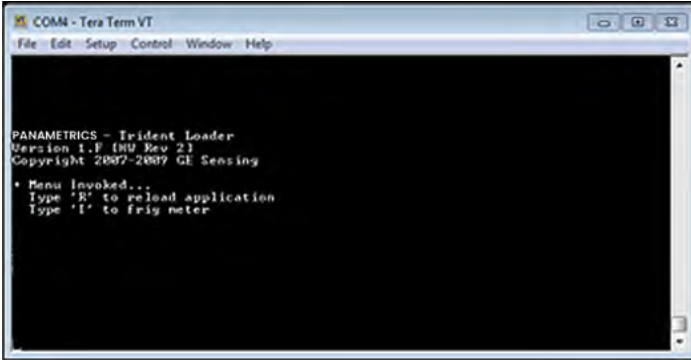

Figure 82: Tera Term Awaiting input
1. Power on the **Sentinel LCT8**, then launch the *Tera Term* software and press **ESC** on your PC keyboard. The *Tera Term* terminal window indicates that the meter is awaiting your input, as in *Figure 82* below.